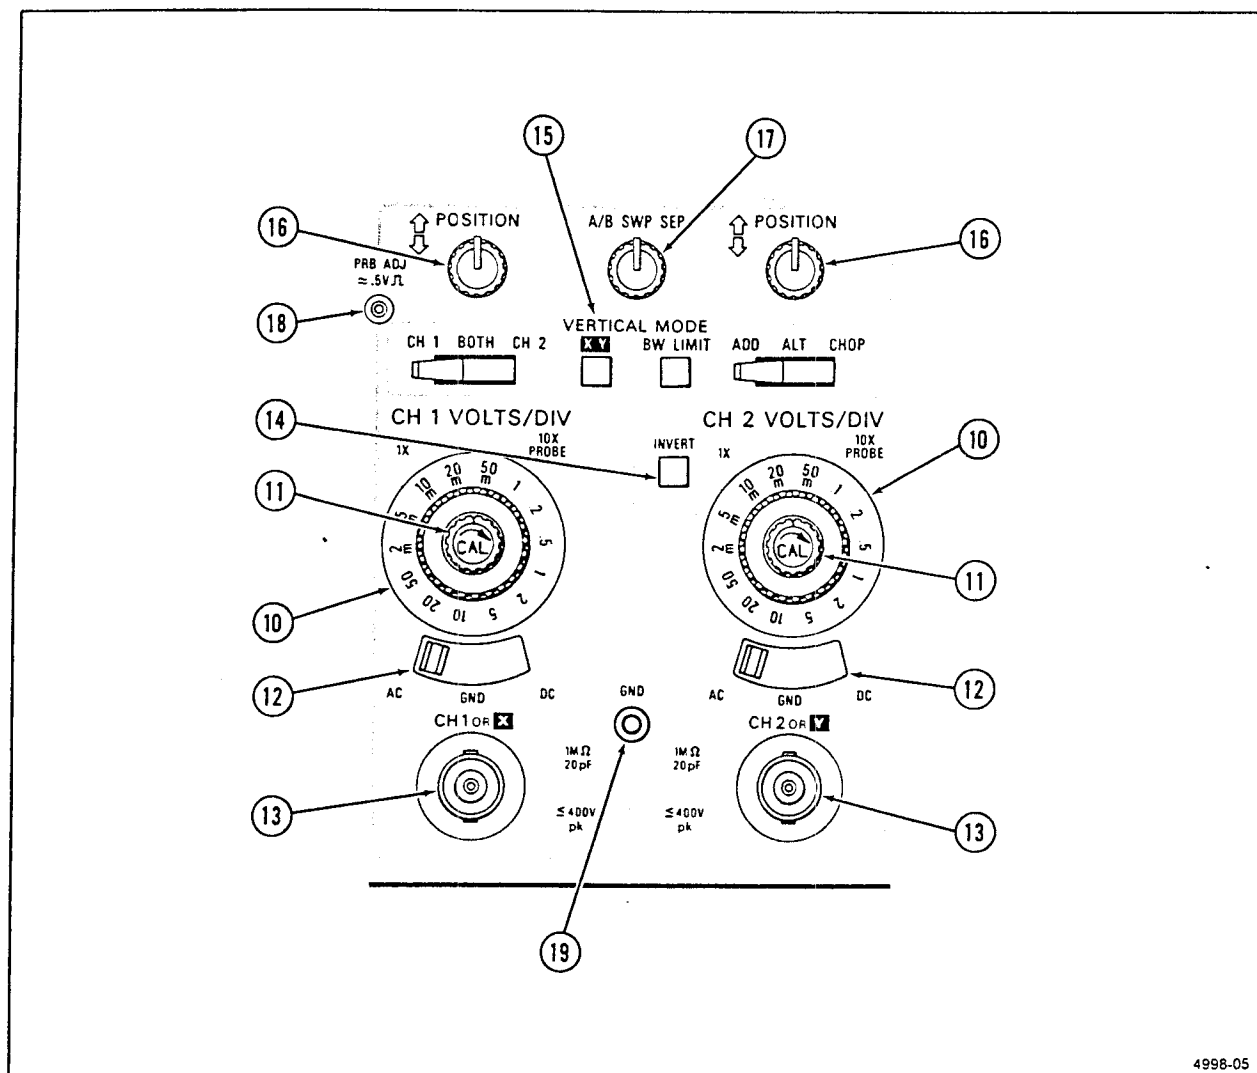

Figure 2-5. Vertical controls and connectors.
Refer to Figure 2-5 for location of items 10 through 19.
- ⑩ **VOLTS/DIV Switches**—Select the vertical channel deflection factors from 2 mV to 5 V per division in a 1-2-5 sequence. The VOLTS/DIV switch setting for both channels is displayed in the crt readout. The VOLTS/DIV control settings for displayed waveforms containing cursor symbols are shown in the crt readout.